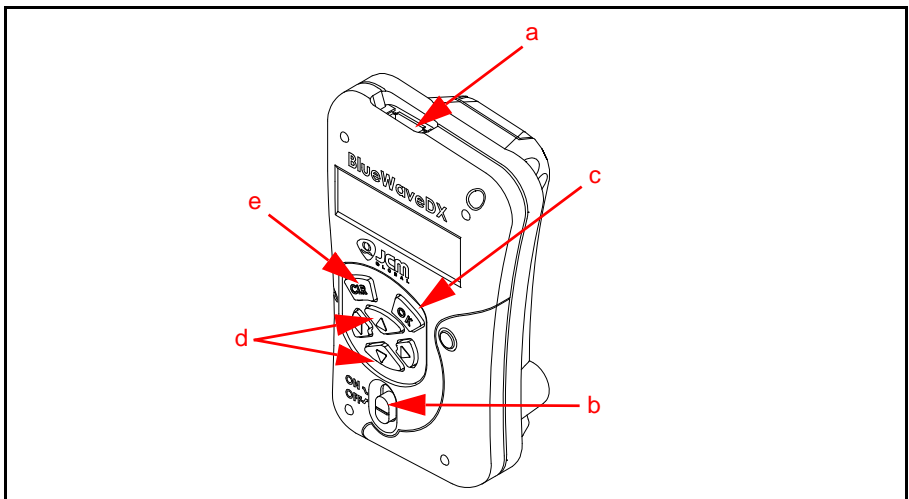

Figure 15 BlueWaveDX Tool (P/N 214780) Primary Controls
1. Connect a standard USB Male "A" to Male "B" cable from the BlueWaveDX Tool's USB Connector Type A (Figure 15 a) to the GEN5 Printer's USB Update Port (refer to Figure 2 k on page 4).
2. Turn the BlueWaveDX Tool's Power Switch ON (Figure 15 b).
3. When the Firmware Update screen appears, press the OK Button (Figure 15 c).
4. Press the UP and DOWN arrow keys (Figure 15 d) to scroll through the list of available GEN5 Firmware versions.
5. Press the OK Button (Figure 15 c) to select the desired Firmware version.
7. When the Download Complete message is displayed, press the CLR Button (Figure 15 e) to return to the Main Menu
Press the OK Button (Figure 15 c) to download Firmware to another Printer.